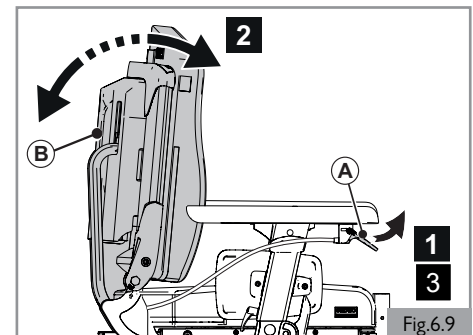

Fig.6.9
6.4 Manual recline backrest (Fig. 6.9)